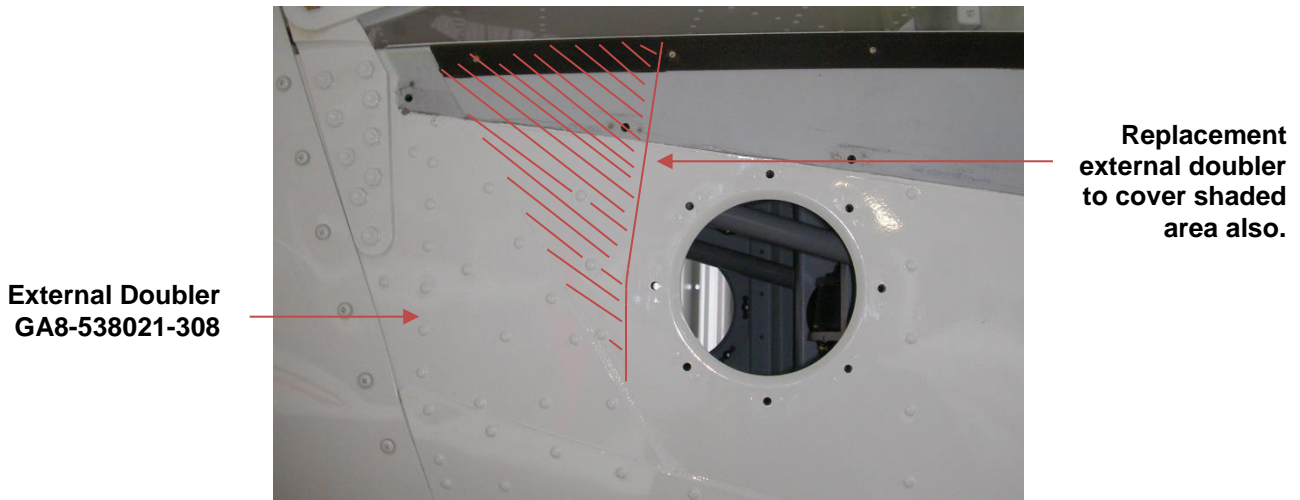

Figure 2
8. Remove and use as a template the external doubler (P/N GA8-538021-308), manufacture a new external doubler for the right hand side as shown in Figure 2. Material is to be 2024-T3 Alclad sheet per QQ-A-250/5, 0.040" thick. When removing the doubler, note type of fasteners (MS20470AD/MS20426AD), as the same type are to be used to install the replacement doubler in Step 11. Ensure that the deformed skin in the tailcone is encapsulated (at least rivet row beyond) by this replacement doubler. Ensure a smooth radius for the contour around the inspection hole.